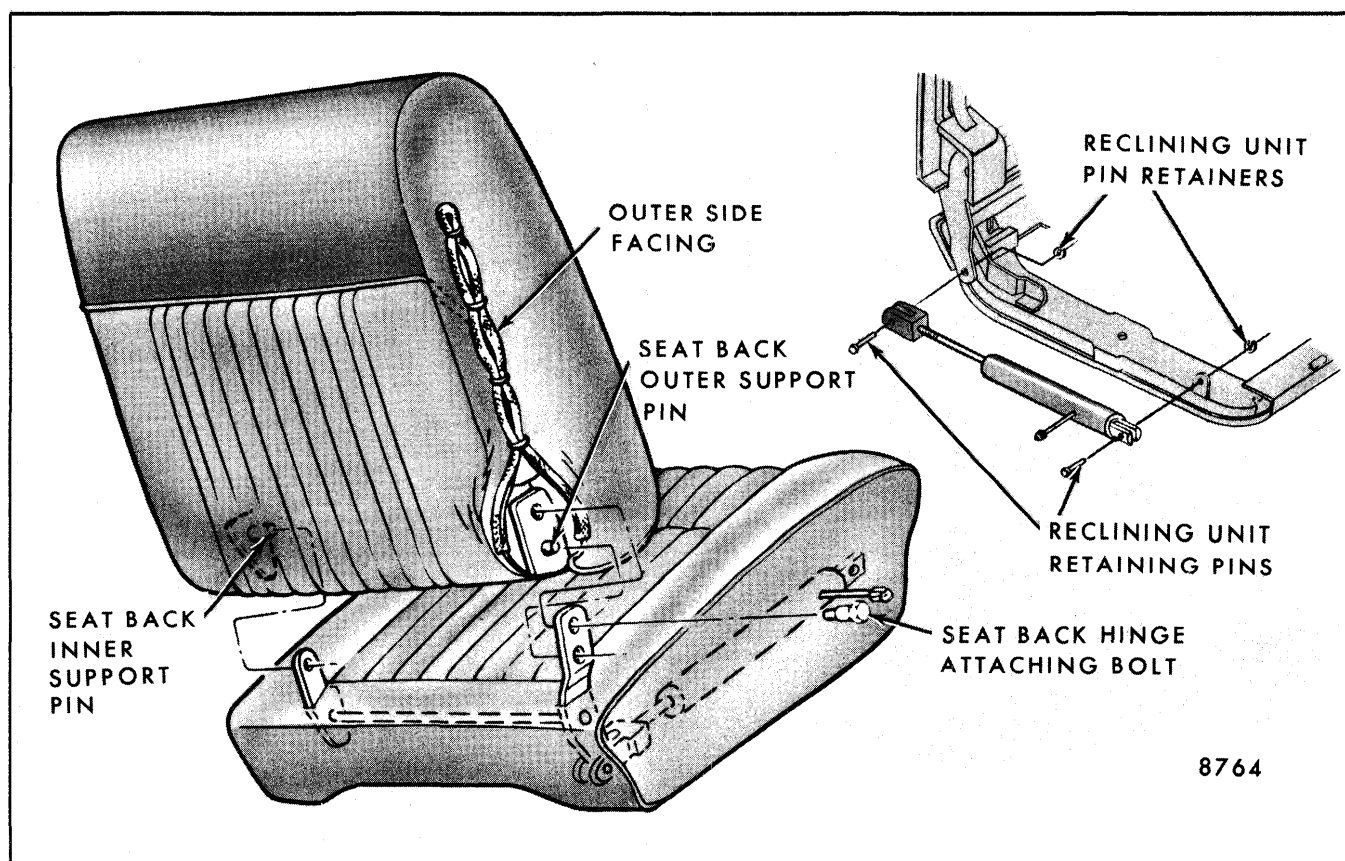

Fig. 9-13-Passenger Seat Reclining Back and Reclining Unit
2. Detach seat back trim at outer side facing sufficiently to remove seat back lock-out bolt (see Fig. 9-13).
3. Move seat back inward sufficiently to disengage inner and outer pins from cushion frame support (see Fig. 9-13); then, remove seat back from seat cushion.
3. Position seat back in a full reclined position; then, remove reclining unit front and rear attaching pin snap ring retainers (see Fig. 9-13)